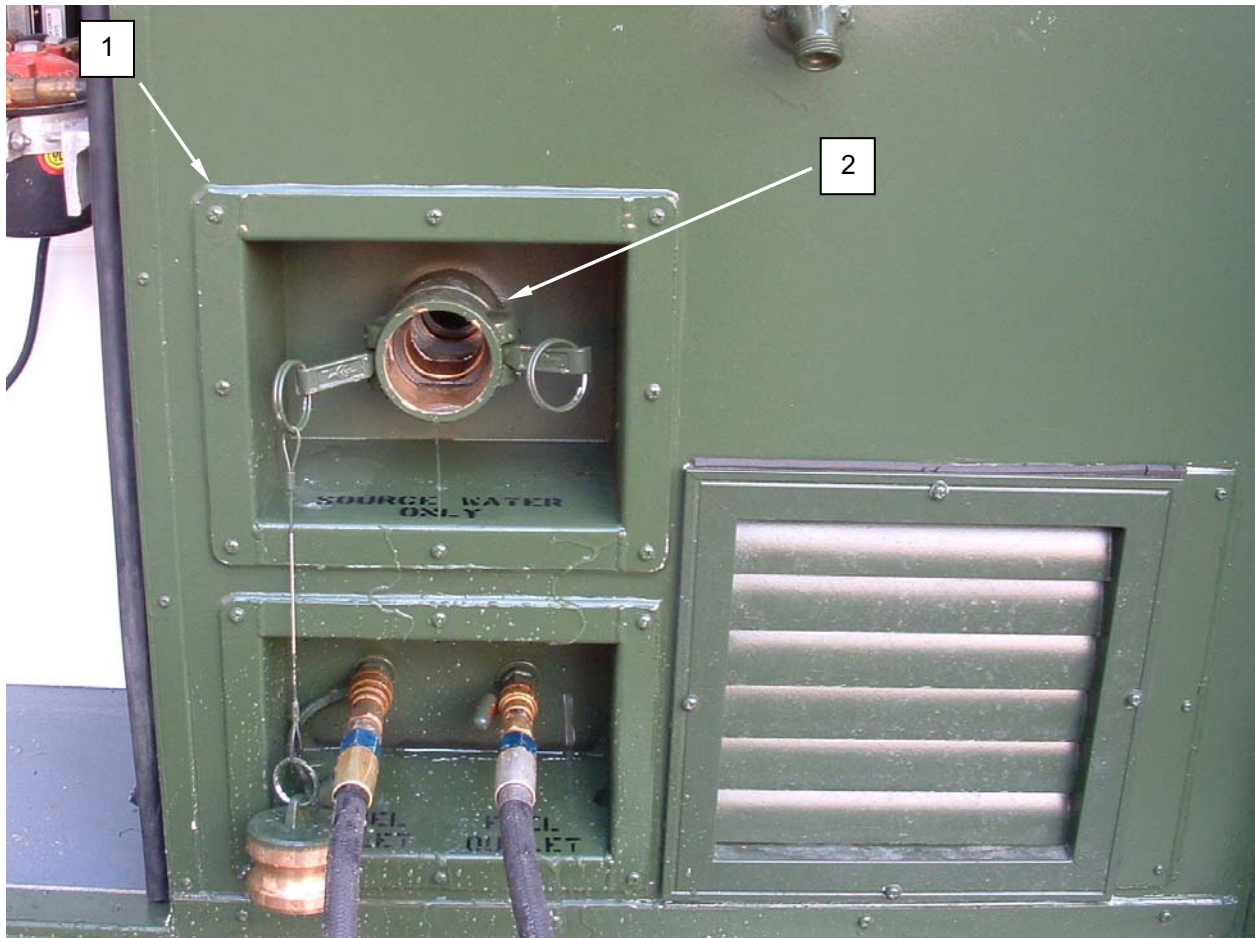

Figure 1. Replace the Water Panel Fittings.
4. Install replacement fitting (**Figure 1, Item 2**) and tighten.